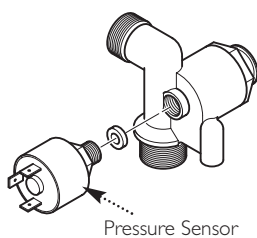

Fig. 76
14.9 Water Pressure Sensor (Fig. 76)